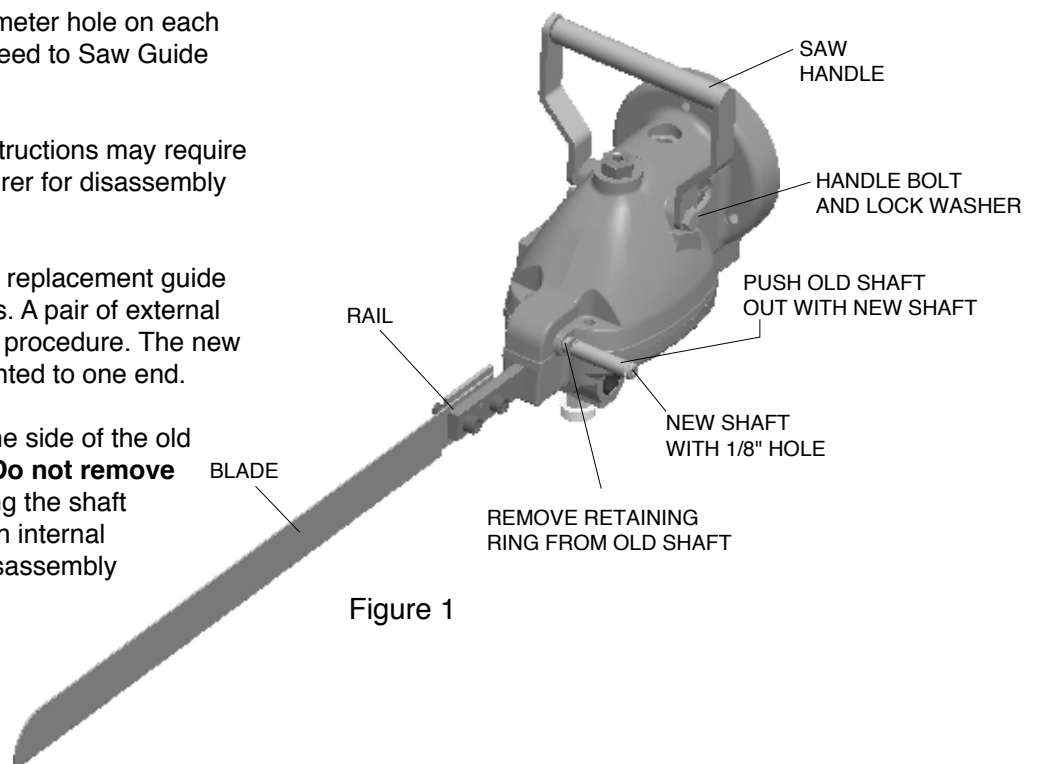

Figure 1
2. Remove the two bolts and lock washers from the saw handle. There is a set on both sides. Retain these bolts if you plan to remove the saw guide in the future. (See Figure 1.)
**Saw It® pneumatic saws sold prior to the March 2011** introduction of the saw blade guide do not have means to mount the bow spring to the saw. Replacement of the front guide shaft is required. (See Figure 1.) Units sold after March 2011 are prepped. Refer to Saw Guide Installation.